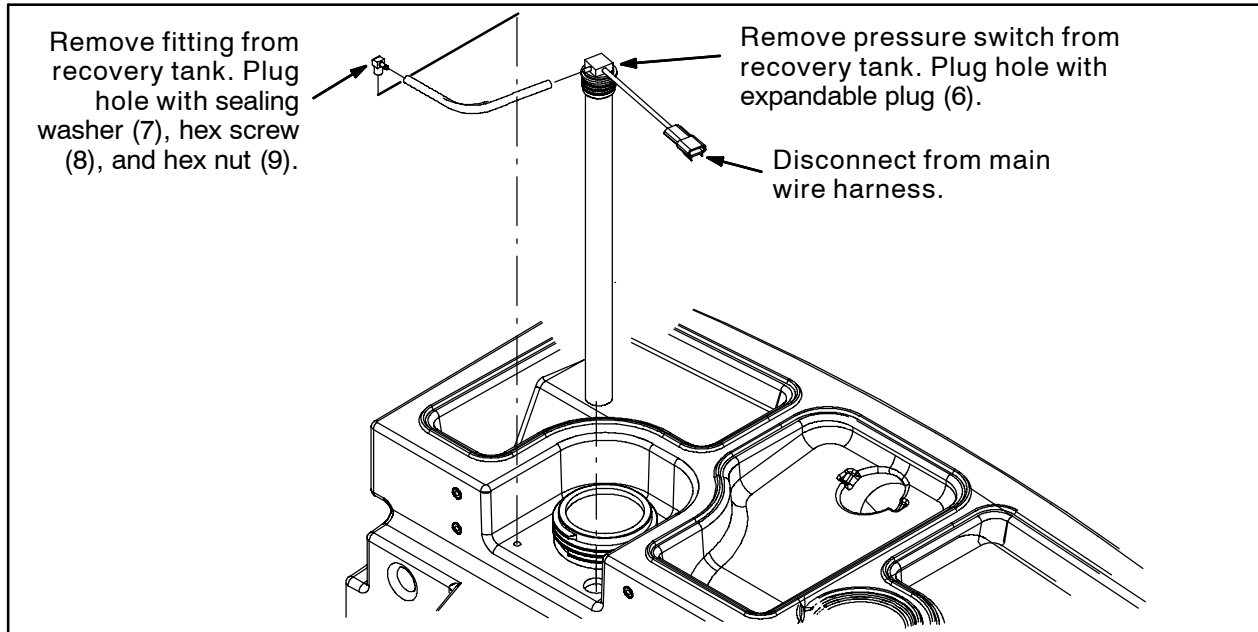

FIG. 1
1. Disconnect the main wire harness from pressure switch. Refer to Fig. 1.
2. Remove the pressure switch and brass fitting from the recovery tank. Discard the pressure switch and fitting. Refer to Fig. 1.
3. Use the expandable plug (6) to plug the hole where the pressure switch was previously located and the sealing washer (7), hex screw (8), and hex nut (9) to plug the hole where the fitting was previous located. Refer to Fig. 1.